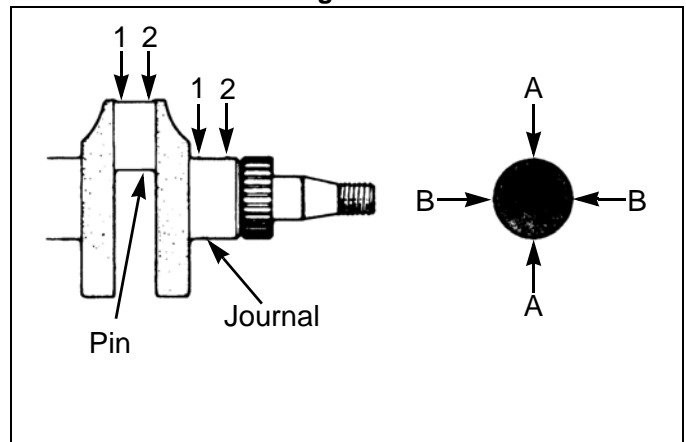

Fig. 3-29
3. Check the crankshaft journal and pin for damage, irregular wear (ellipticity, conicalness), and shaft diameter. If service limit is exceeded replace the bearing (bushing) and/or crankshaft. Measure the dimensions of the journal and pin in the AA and BB directions at positions 1 and 2 (Fig. 3-29) avoiding the oil holes.